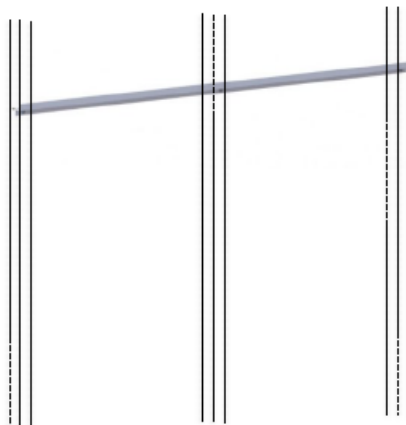

Figure 3: Flush Mount hanging bar
4. Use the provided 2" screws or other appropriate fasteners to secure the Flush Mount hanging bar to the wall studs (see Figure 3).